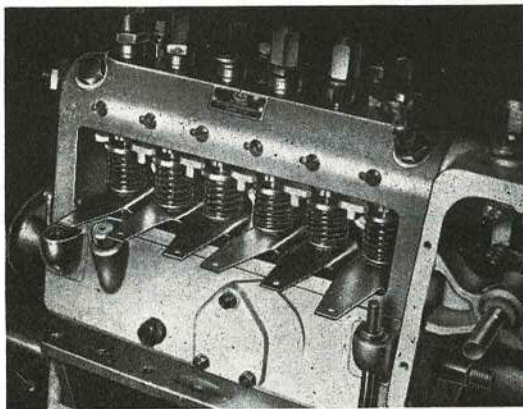

Fig. 8. TAPPET HOLDERS IN POSITION
12. Before the camshaft can be removed, it must be relieved of the pressure exerted by the plunger springs. This is done by turning the camshaft and, as each lobe comes to T.D.C., a special holder is inserted under the head of the tappet adjusting screw (Fig. 8).